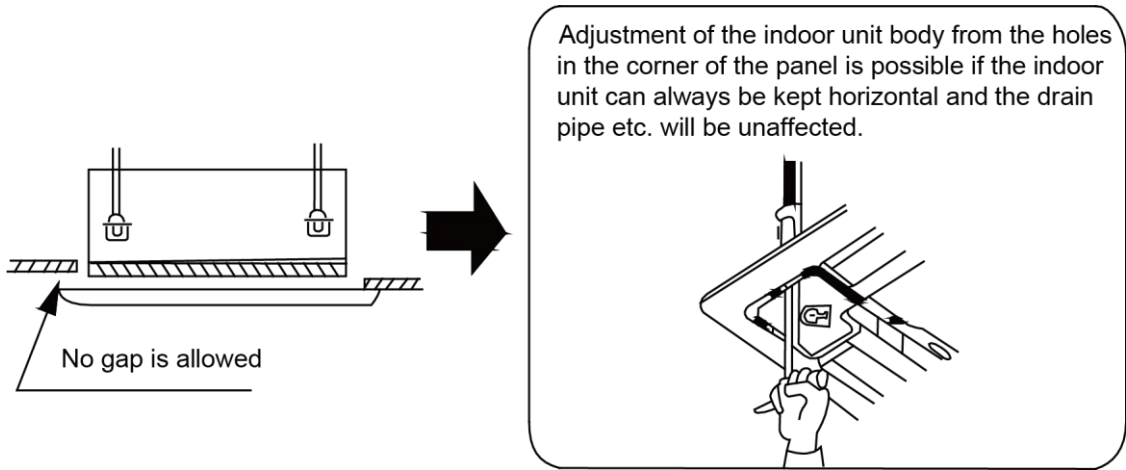

Figure 3-1-33
- (8) If gap still exists between ceiling and decoration panel after tightening the screws, readjust the height of the indoor unit. (Figure 3-1-33)